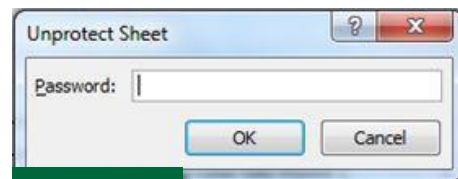

Figure 15
2. When prompted for a password (Figure 15), enter the default password "**CSAMXX**," where XX is the two-digit serial number of the unit.